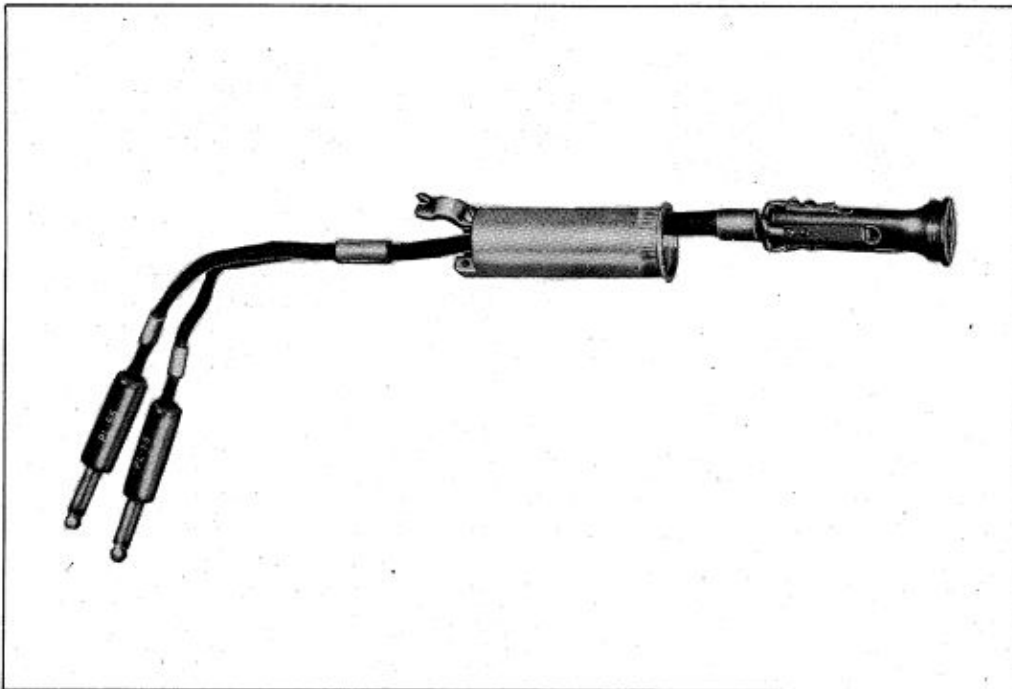

Figure 7—Cord CD-1169
e. CORD CD-1169.—This adapter cord is made up of four wires connecting a Jack JK-49 and 2 Plugs PL-55, with one end of the four wires connected to the jack and the other ends divided, 2 each to a Plug PL-55. Each pair is marked with phenolic marker, one being marked "TEL" and the other marked "MIC." (See figure 7.)